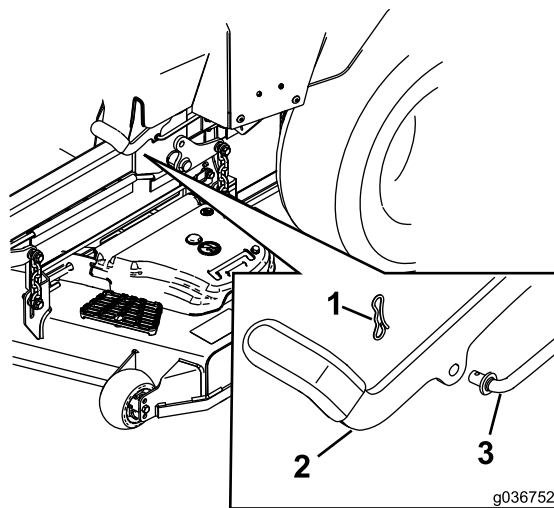

Figure 51
6. If an adjustment is necessary, disengage the parking brake. Remove the cotter pin from the brake linkage shaft (Figure 51).